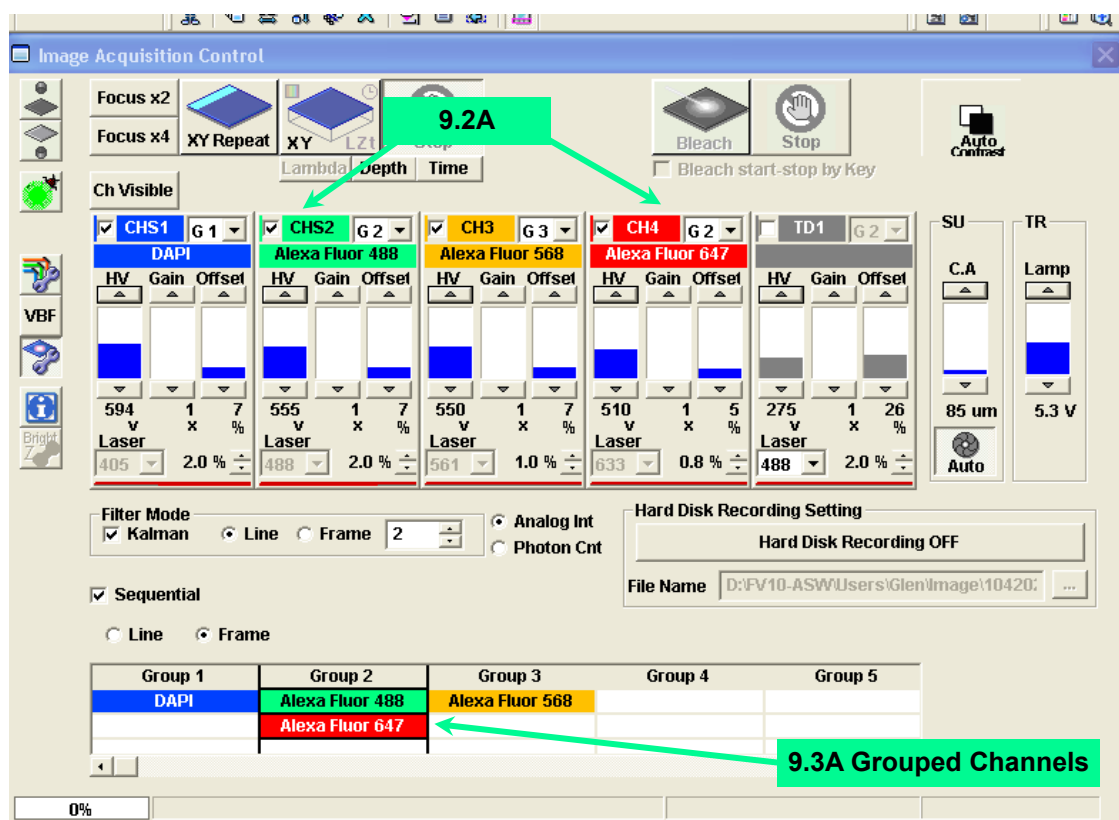

Figure 9A – Sequential Acquisition and Averaging Controls
3.3 Using Channel Groups, Figure 9A.